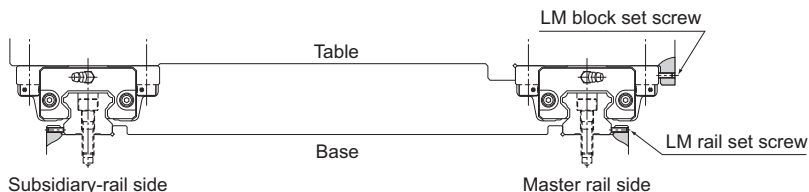

Fig.5 When an Impact Load is Applied to the Machine
- (1) Gently place the table on the LM blocks and temporarily fasten the mounting bolts.
- (2) Press the master side LM blocks to the side reference surface of the table using set screws and position the table. (See Fig.5 on **B1-91**.)
- (3) Fully fasten the mounting bolts on the master side and the subsidiary side to complete the installation.